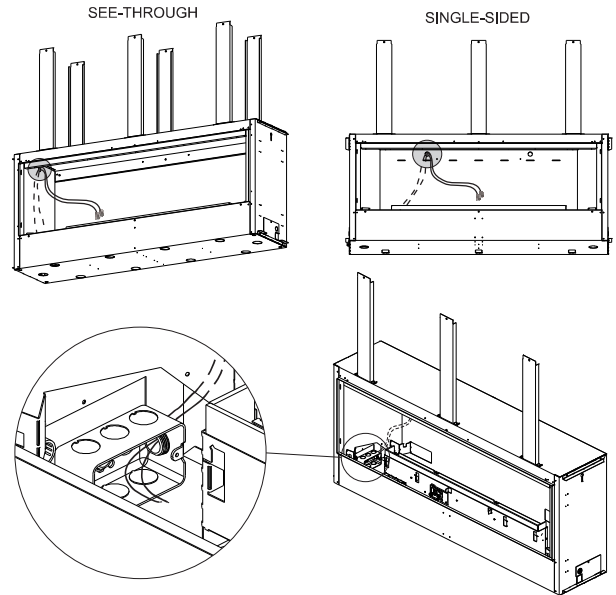

Figure 7
- Thread wire harness through hole in the rear of the firebox, behind the rear of the firebox and down to the junction box on the bottom left side. See Figure 7.